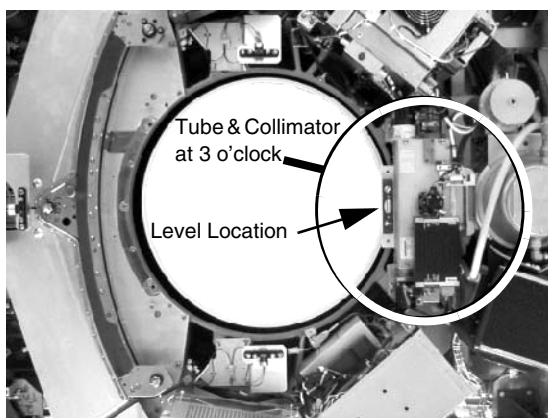

Figure 1-26 Three o'clock position
- 3.) Rotate the gantry by hand until the collimator face plate is at 3 o'clock (see Figure 1-26). Use a 9-in. level to verify that the plate is vertical. With the power off, the gantry movement is tight.